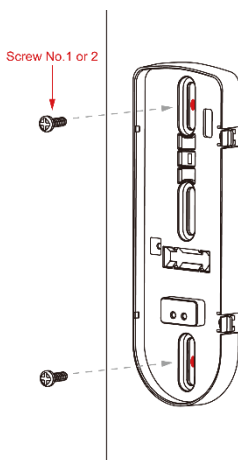

Figure 4-5 Installing the Screws
- Secure the bracket with screws (No. 1 or No. 2). Please see Figure 4-5.